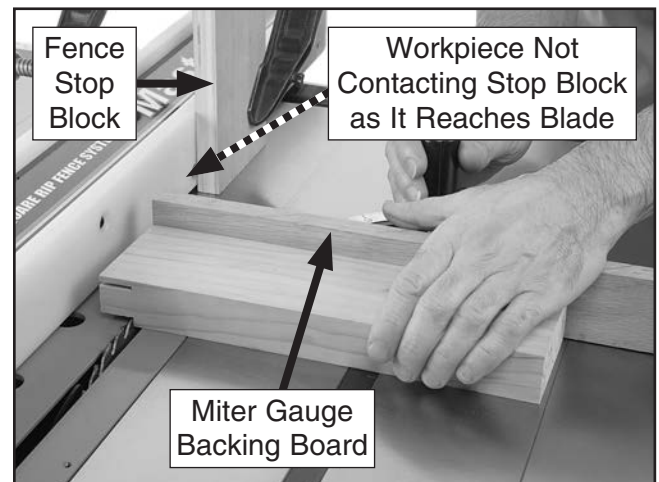

Figure 32. Making a tenon shoulder cut.
4. Install table saw fence and clamp a stop block to it *behind blade* so that workpiece can be placed against stop block to properly align cut (see **Figure 32**).
5. Attach a backing board to miter gauge, aligned even with the end of the workpiece, as shown in **Figure 32**.